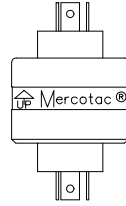

Fig 1
1. Mercotac® brushless slip rings can be used both horizontally and vertically. However, the "UP" arrow on the body of the slip ring should not point below horizontal. It is preferable to store units upright (with the arrow up). <Fig 1>